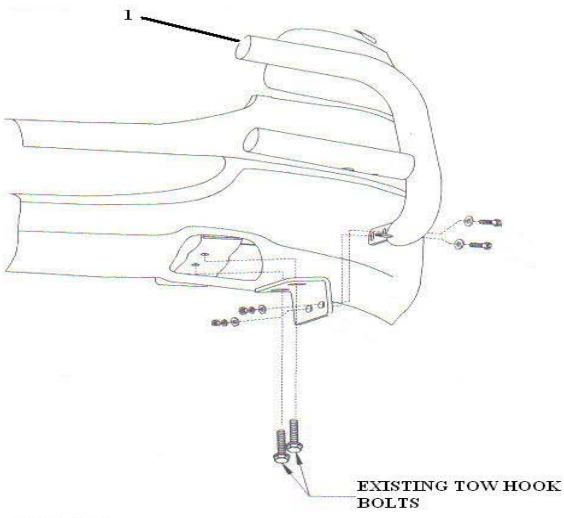

FIGURE 2
STEP 4 POSITION BOTTOM BRACKET UP TO BOTTOM OF FRAME AND REPLACE TOW HOOK BOLTS. SEE FIGURE 2. GO TO STEP 6.
STEP 3 INSERT TWO BOLT PLATES THROUGH THE END OF THE FRAME AND INTO BOTTOM FRAME HOLES. NOTE: IT MAY BE NECESSARY TO REMOVE THE LOWER PLASTIC PORTION OF THE BUMPER TO GAIN ACCESS TO ENDS OF THE FRAME RAILS. THE INDENTED POCKETSIN THE LOWER BUMPER WILL NEED TO BE CUT OUT TO ALLOW BOTTOM BRACKETS TO PASS THROUGH. SEE FIGURE 2.